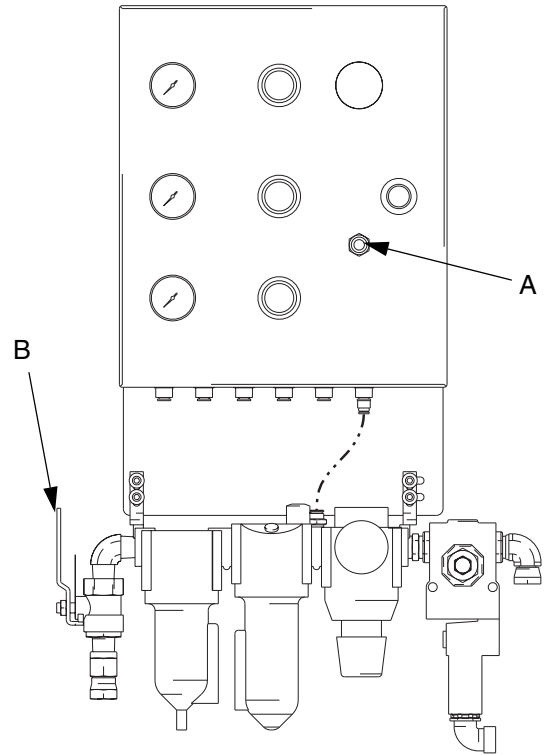

FIG. 8
2. Set the ram control lever (A) to DOWN. FIG. 8 and 9.
- a. Close the air valve (B).
- b. Set the ram control lever (A) to OFF to shut off the ram air supply.